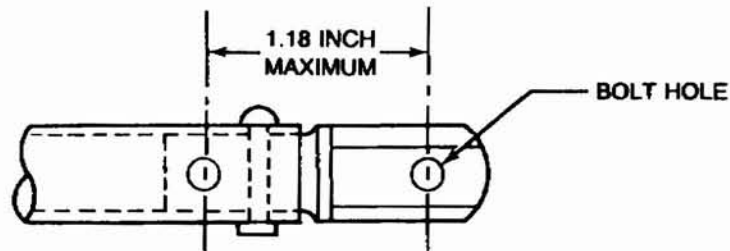

Figure 1.
1. On both ends of the rod, measure the distance from the center of the bolt hole through the clevis to the center of the second rivet through the rod and clevis (see figure 1.)